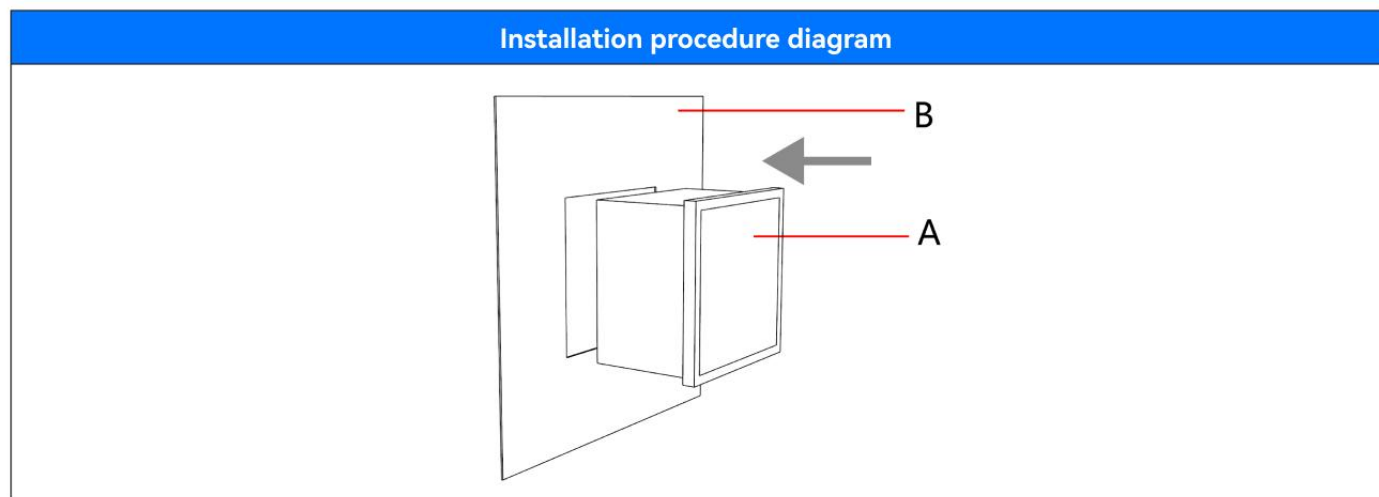

Figure3.1
2. As shown in Figure 3.1, put on the rubber gasket, install the instrument A to the mounting surface B through the ejector rod and nut, and tighten the nut to ensure secure.